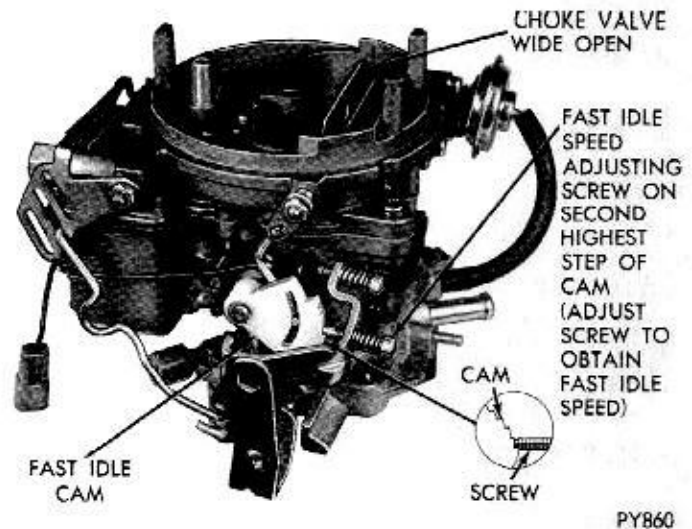

Fig. 26—Fast Idle Speed Adjustment (On Vehicle)
- (1) With engine off and transmission in **PARK** or **NEUTRAL** position, open throttle slightly.
- (2) Close choke valve until fast idle screw can be positioned on second highest speed step of fast idle cam. (Fig. 26).
- (3) Start engine and determine stabilized speed. Turn fast idle speed screw **in** or **out** to secure specified speed. (See Specifications.)
- (4) Stopping engine between adjustments is not necessary. However, reposition fast idle speed screw on cam after each speed adjustment to provide correct throttle closing torque.